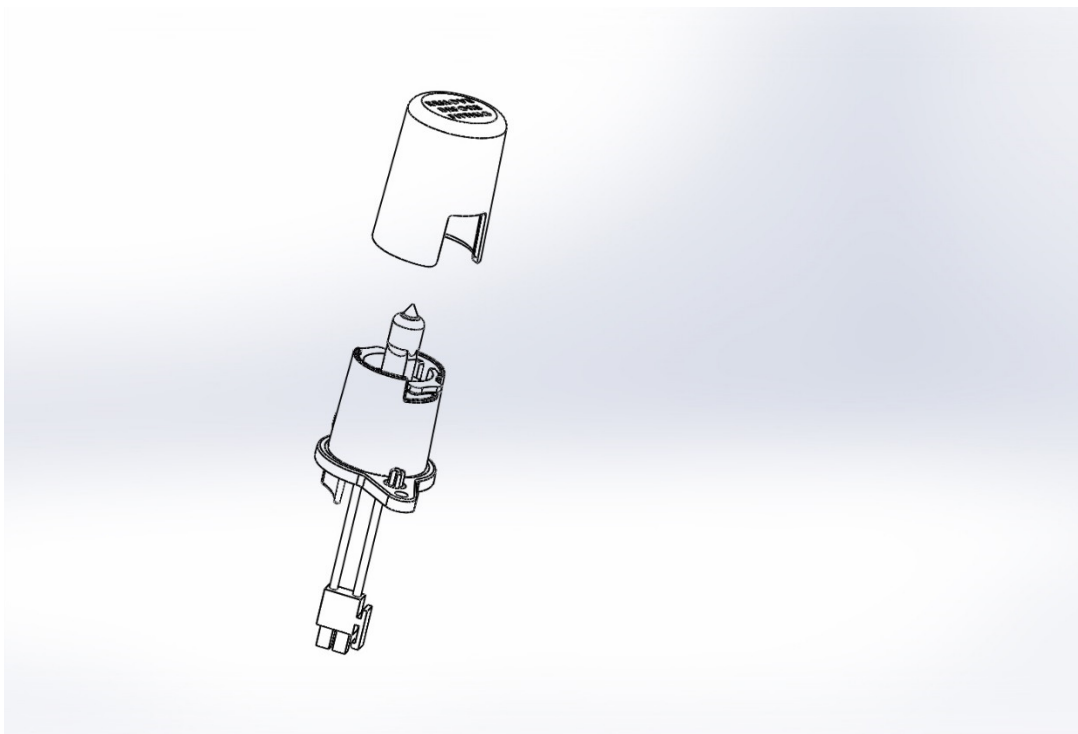

Fig 4
6. Carefully remove the replacement lamp from the packaging and remove the protective cover from the lamp assembly (**fig 4**). Ensure that the glass portion of the lamp is not